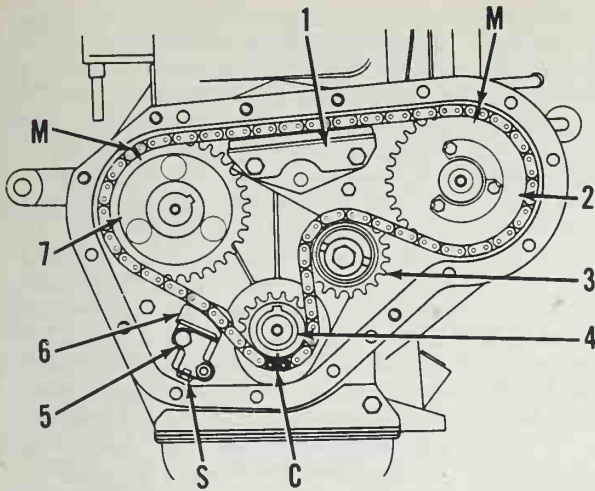

Fig. P1-20—Drawing showing timing chain and sprockets on models so equipped.
CHAIN TENSION ADJUSTMENT. Chain slack is removed during engine operation by a hydraulically actuated chain tensioner (5—Fig. P1-20) which uses pressurized engine oil to force chain tensioner shoe (6) against the timing chain.
REMOVE AND REINSTALL. Timing chain and sprockets are accessible after removing chain cover. The injection pump must be removed if chain and sprockets are to be removed. Loosen idler sprocket retaining nut and rotate idler eccentric to loosen chain. Unscrew injection pump sprocket (2—Fig. P1-20) then remove sprocket while disengaging chain. If required, remove camshaft, crankshaft, and idler sprockets.
To install timing chain, wrap chain around injection pump sprocket so marks (M—Fig. P1-20) on chain and sprocket are aligned. Engage chain with camshaft, crankshaft and idler sprockets so copper plated link (C) is opposite crankshaft sprocket timing mark and marks (M) on chain and camshaft sprocket are aligned. Tighten injection pump sprocket screws to 4.9-7.3 N·m on Bosch pump or 21.6-25.4 N·m on Roto Diesel pump. Refer to CHAIN TENSION ADJUSTMENT section and adjust timing chain tension as outlined. Install injection pump and timing chain cover. Tighten timing cover screws and nuts to 7.4-12.2 N·m.